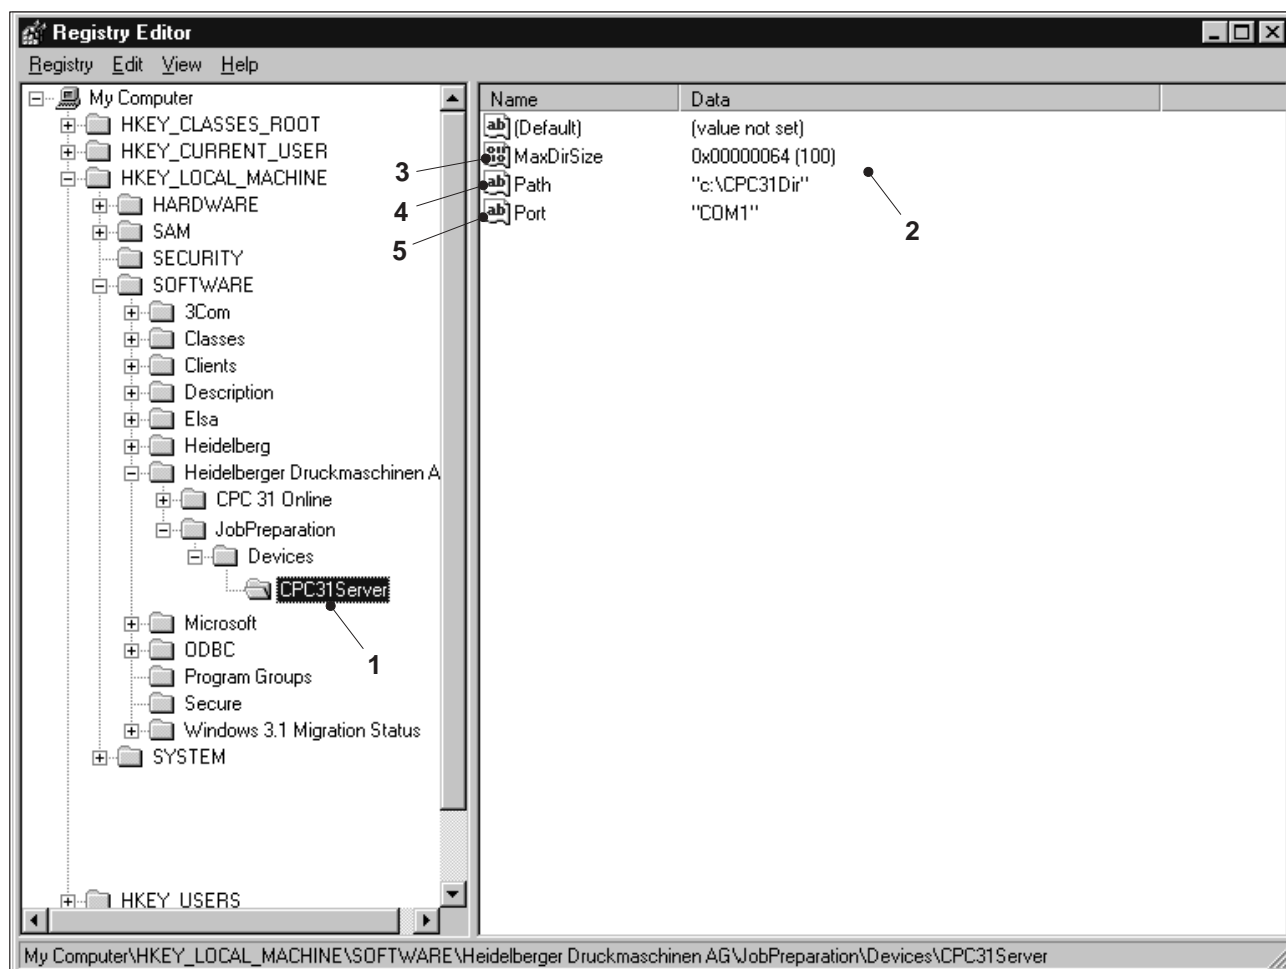

Fig. 6 Registry editor
- ④ In the registry editor open the directory **CPC31Server** (Fig. 6/1) (path: HKEY_LOCAL_MACHINE\SOFTWARE\Heidelberg Druckmaschinen AG\JobPreparation\Devices).
- ⑤ Check entries in accordance with Fig. 6/2.
- 2 Double click on the line **MaxDirSize** (Fig. 6/3).
The path input change for the export directory of the **fdw** files (C:\CPC31Dir) can be effected here (Fig. 6/4).
- 1 Double click on the line **Port** (Fig. 6/5).